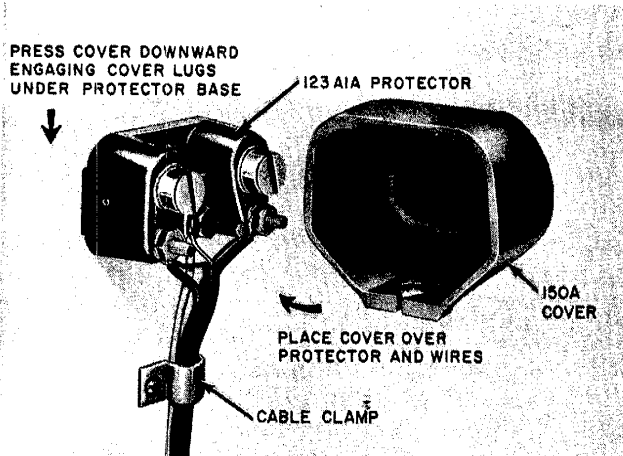

Fig. 10—Installation of 150A Cover
**4.09** To protect the 123A1A or 128A1A-2 Protectors at outside installation, a 150A Cover or a 305A2 Protector Mounting is installed over the protectors. The 150A Cover is also used inside when a protective covering is required. Fig. 10 illustrates the installation of the 150A Cover.